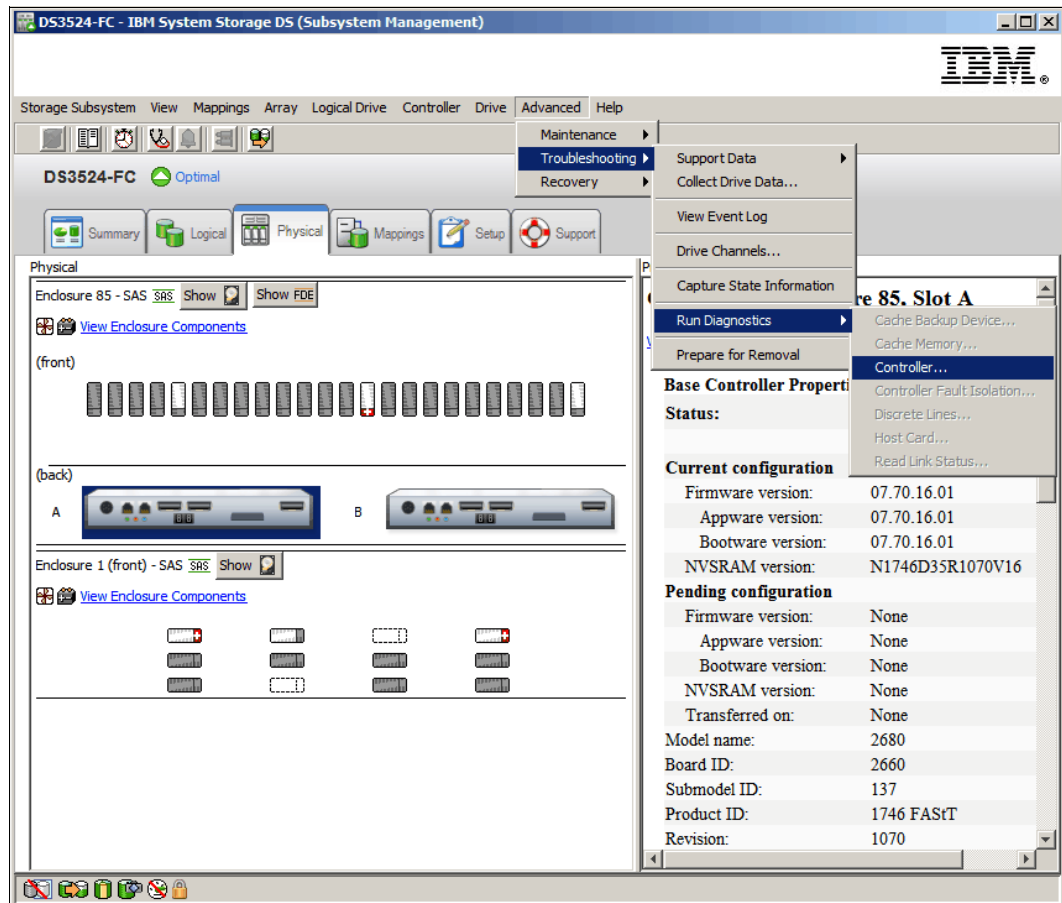

Figure 14-120 Run Controller Diagnostics
- Open the Physical tab of the DS Storage Manager (Subsystem Management) and select the controller that you want to test (either controller A or controller B). Then click **Advanced** → **Troubleshooting** → **Run Diagnostics** → **Controller** as shown in Figure 14-120 on page 406. In this example, we have selected controller A.